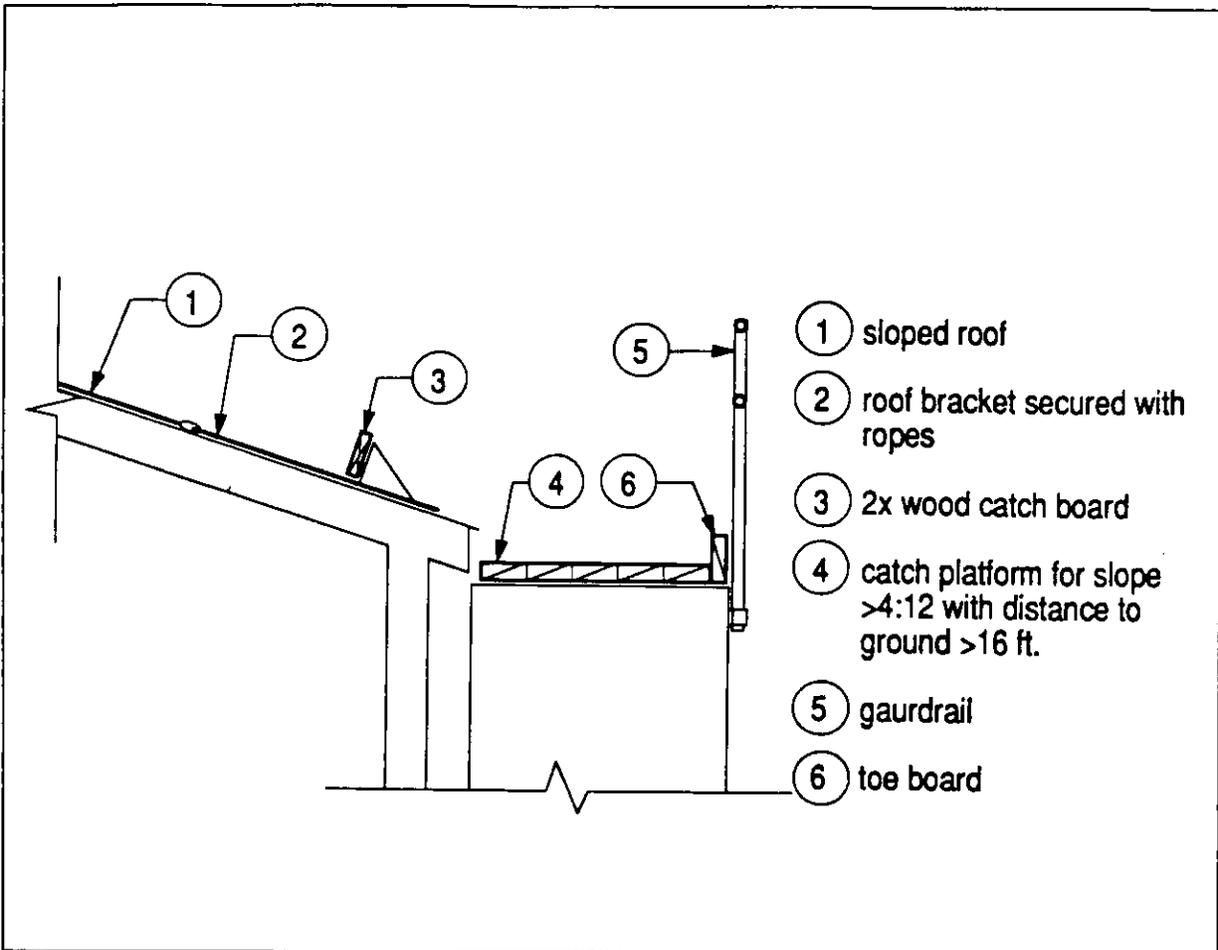

Figure 2-1
- Roofing brackets should be constructed to fit the pitch of the roof as illustrated in Figure 2-1.